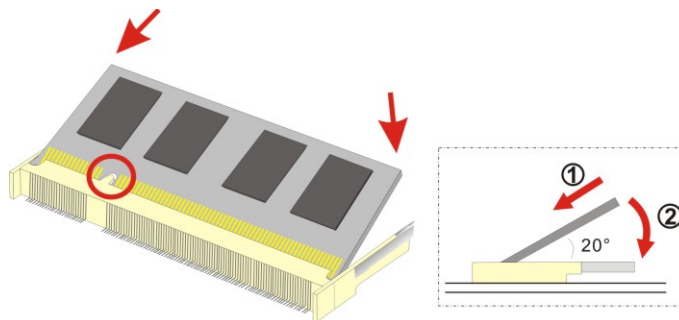

Figure 4-1: SO-DIMM Installation
To install a SO-DIMM into a SO-DIMM socket, please follow the steps below and refer to Figure 4-1.
- Step 3:** **Insert the SO-DIMM.** Push the SO-DIMM chip into the socket at an angle. (See Figure 4-1)
- Step 4:** **Seat the SO-DIMM.** Gently push downwards and the arms clip into place. (See Figure 4-1)